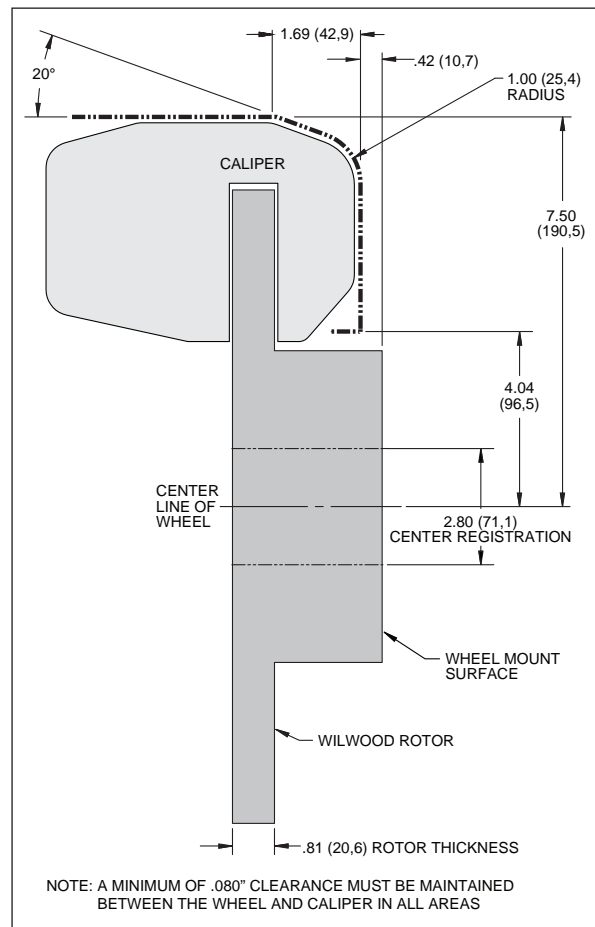

Figure 4. Wheel Clearance Diagram
• Verify your wheel clearance using Figure 4.